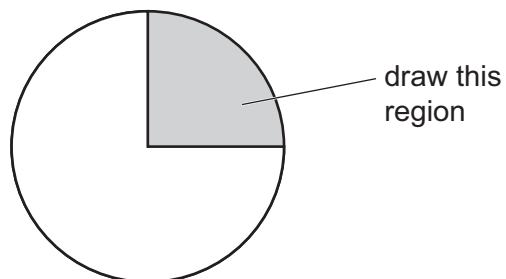

Figure 2.1
- (a) (i) Draw a large plan diagram of the region of the stem on **J1** indicated by the shaded area in Figure 2.1. Use a sharp pencil.